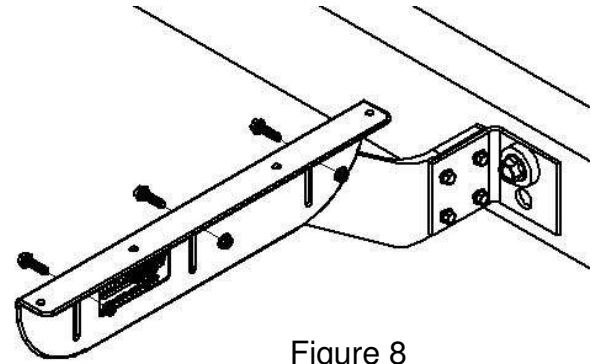

Figure 8
a. In these cases use the plastic angle (PB5071) to connect the fender to the center bracket assembly (Figure 8).